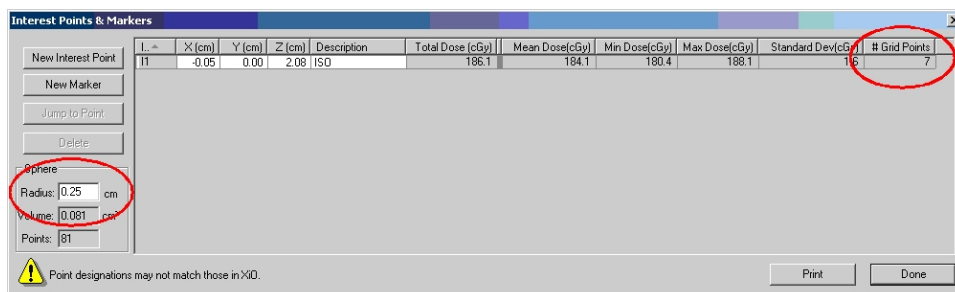

Figure 9 - Monaco "Interest Points & Markers" window
- if needed, the user may create any interest points to get dose values at the end of the calculation, using the command "Tools | Interest Points & Markers" (Figure 9);